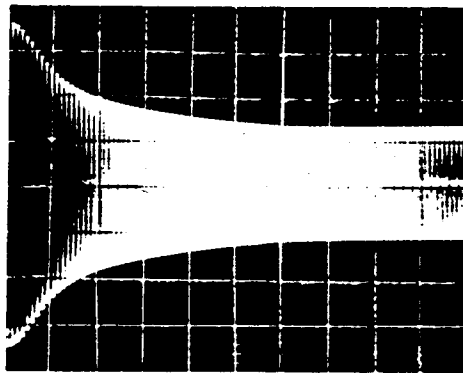

FIG. A-1: BROADBAND LIMITER ATTACK
- (1) Connect digital voltmeter across C605, and read voltage.
- (2) Adjust P601 for a reading of + 15.00 volts on DVM.
- (3) Jumper chassis and circuit grounds together.
- (4) Center all user-alignment controls normally located behind security panel, except PILOT PHASE. Place PILOT PHASE at 10:30. Place OPERATE/TEST switch in OPERATE.
- (5) Turn P210 (broadband FET bias) CW until the GAIN REDUCTION meter indicates that gain reduction is beginning. Back off P210 until no further change is noted in GAIN REDUCTION.
- (6) Adjust P212 (G/R Meter Cal) until the GAIN REDUCTION meter indicates 100%.
- (7) Connect oscillator to LEFT AUDIO INPUT. Adjust oscillator for 5 kHz. Increase oscillator output until GAIN REDUCTION meter indicates -8.5 dB.
- (8) Connect oscilloscope to SCOPE OUTPUT of distortion analyzer. Connect input of distortion analyzer to the left channel broadband limiter output (terminal 29), which is a fork terminal close to the right rear of the limiter board when viewed from the front. Operate distortion analyzer such that the oscilloscope displays the input to the distortion analyzer (normally the "SET LEVEL" mode). Operate the scope in NORMAL TRIGGER mode, and adjust trigger level so scope barely stops triggering.
- (9) Remove the hot lead of the oscillator from LEFT AUDIO INPUT. Turn the RELEASE TIME control full CCW. Now reconnect the hot lead of the oscillator, trying to make a clean reconnect. Observe the scope, which should trigger on the overshoot produced by the finite attack time of the broadband limiter. With the scope time base set at 2 ms/cm, adjust P210 (Broadband FET Bias) trimmer for a scope pattern similar to fig. A-1. This pattern will be transient, but should be easily visible. Fig. A-1 was photographed using a storage scope. To repeat the pattern, it is necessary to alternately disconnect and reconnect the hot lead of the oscillator.